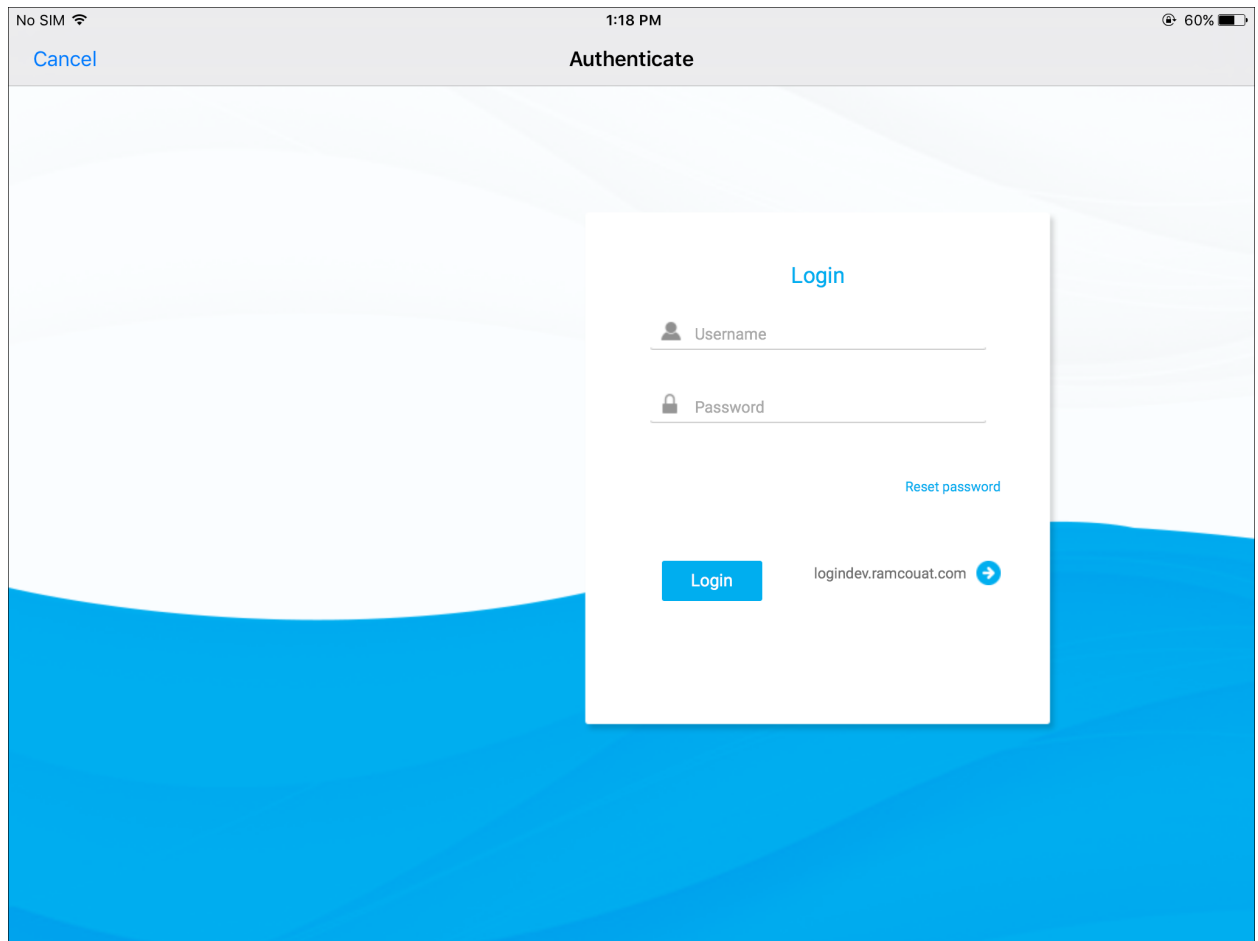

Figure 4.1: The LineAnywhere Login page
1. Log into **LineAnywhere** application. See Figure 4.1.